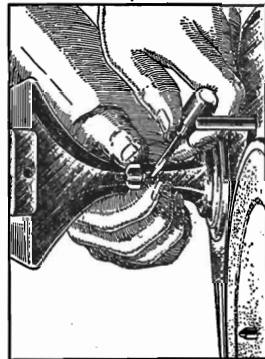

Figure 2—Adjusting height of tone arm
5. Place a Home Recording needle into the pickup as far as it will go. Then lower the pickup on the side of the turntable. The needle should extend from 1/8" to 1/4" below the top of the metal edge of the turntable. If it does not, an adjustment can be made by means of a screw located under the tone arm. Lifting the arm provides accessibility to the screw. See Figure 2.